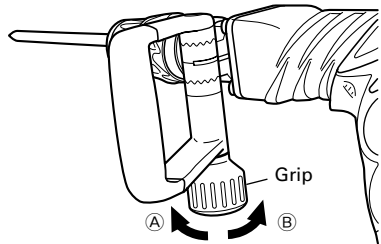

Fig. 4
- (1) Loosen the handle by turning the grip in the direction of (A) as shown in Fig. 4.